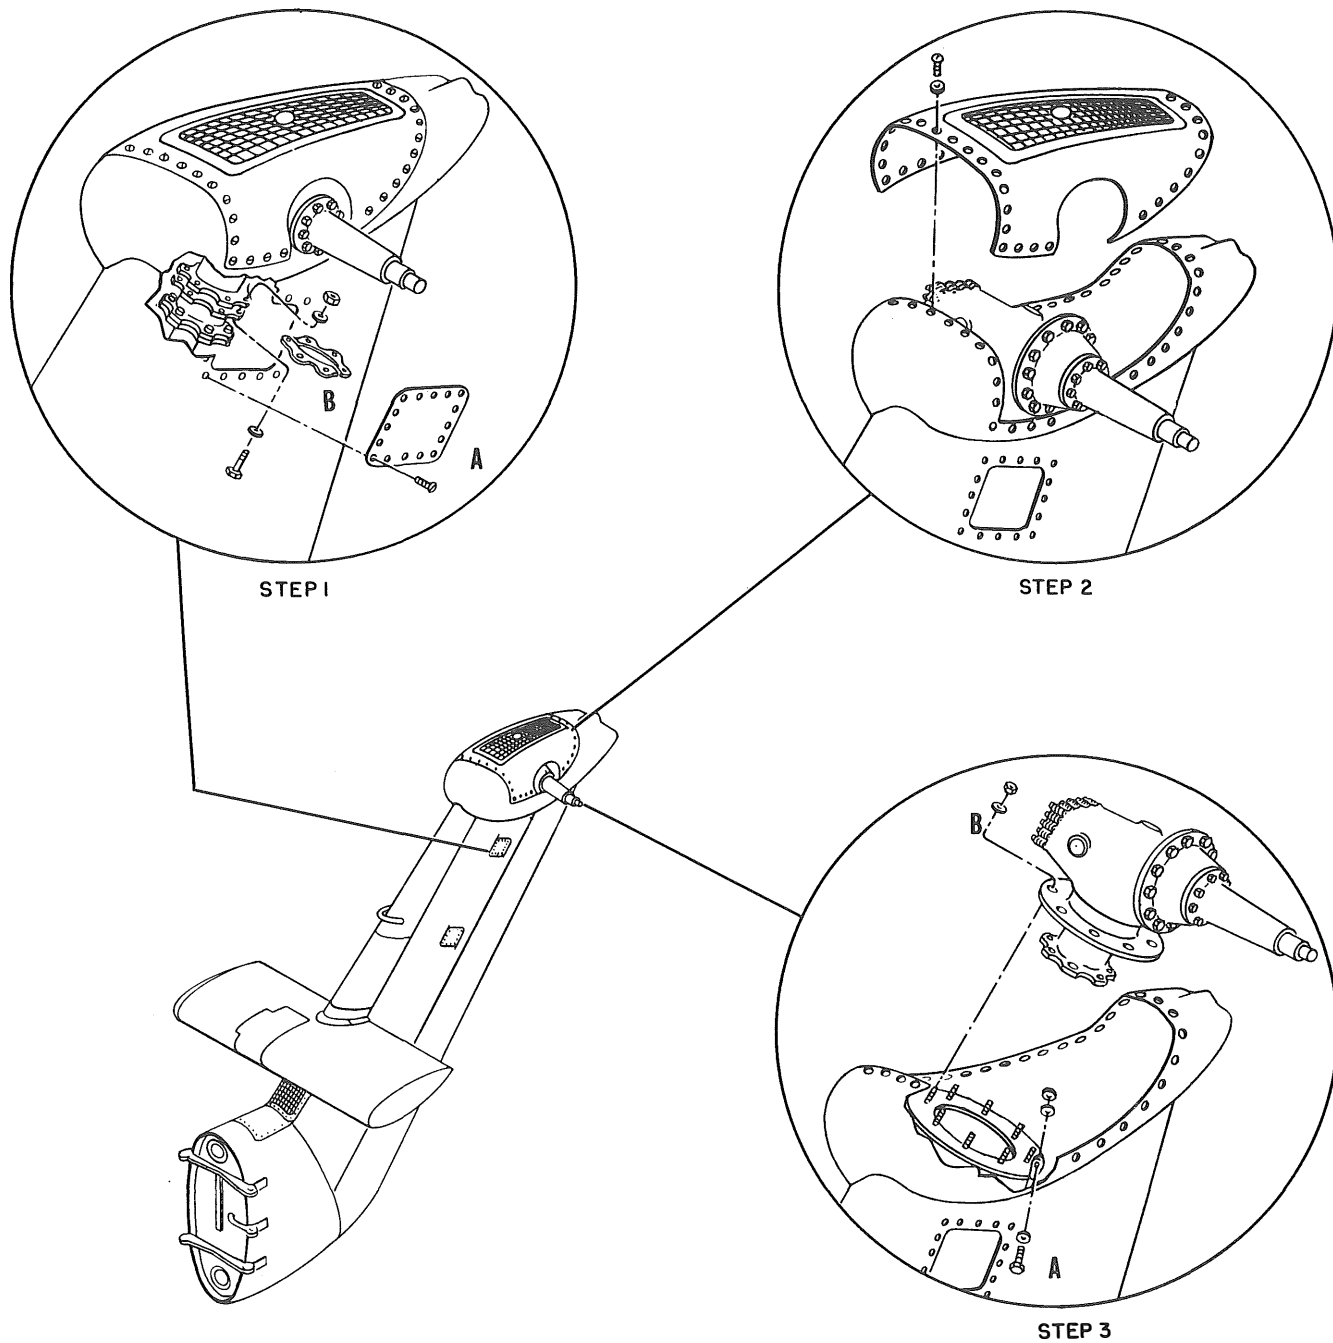

Figure 5-60. Tail Rotor Gear Box Removal
- Remove the upper rubber coupling access panel at "A" (step 1, figure 5-60). Disconnect the rubber coupling from the input housing by removing the bolts, washers, nuts and shims at "B" (step 1).
- Remove the tail rotor gear box screened cover. (See step 2, figure 5-60.)
washers and nuts at "B" (step 3, figure 5-60). Secure the control rod assembly to the arm assembly on the tail rotor gear box with the bolt, washers, nut and cotter pin at "A" (step 3).
g. Fasten the tail rotor gear box fairing cover in place. (See step 2, figure 5-60.)